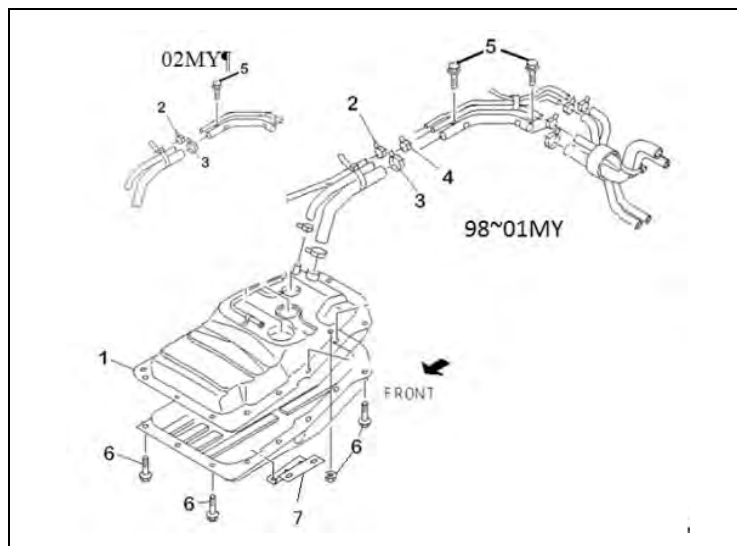

Figure 61
- d. Install fuel tank. Install new parts at locations 2, 3, 4 and 6 shown in Figure 61.